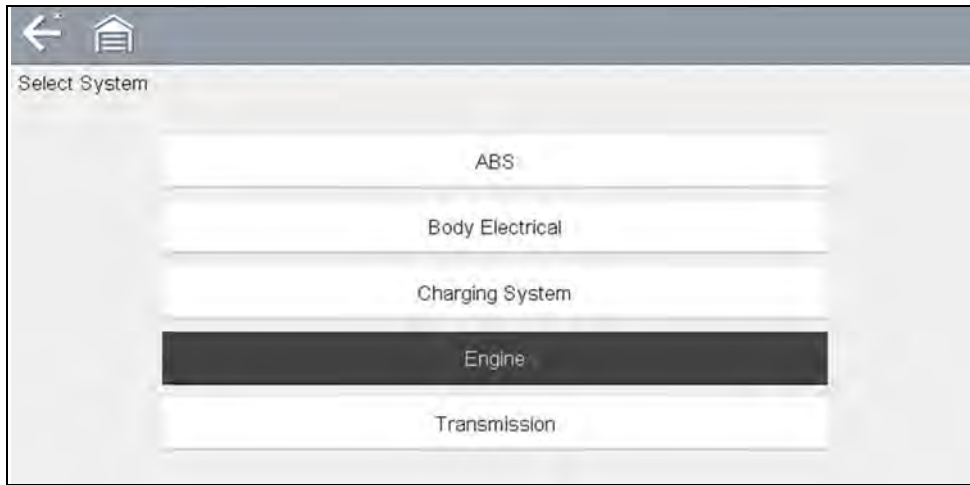

Figure 10-3 Systems Menu
1. Select a system from the list (Figure 10-3).